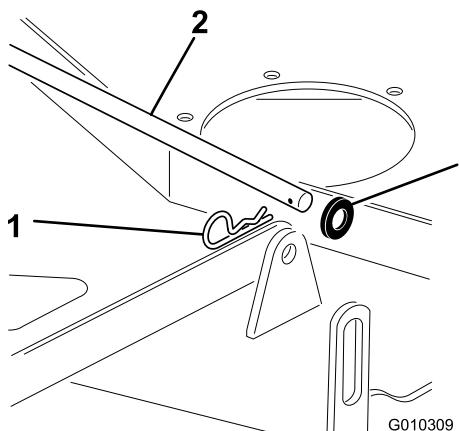

Figure 72
1. Remove the hair pin cotter and washer securing the long, link bar to the frame and deck; remove the link bar (Figure 72).
7. Install the long, link bar through the frame hanger and deck. Secure the link bar with the hair pin coppers and washers removed previously (Figure 72).